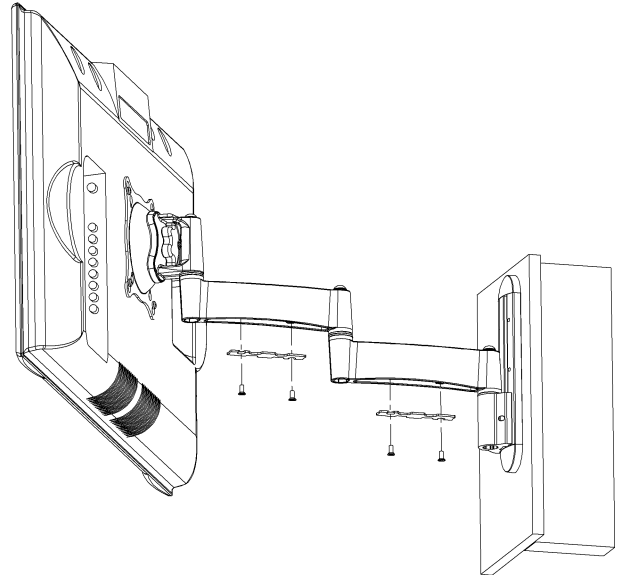

Figure 7. Cable Covers
2. Secure cables using cover plates and four screws (see Figure 7 and “DRAWINGS” on page 2).